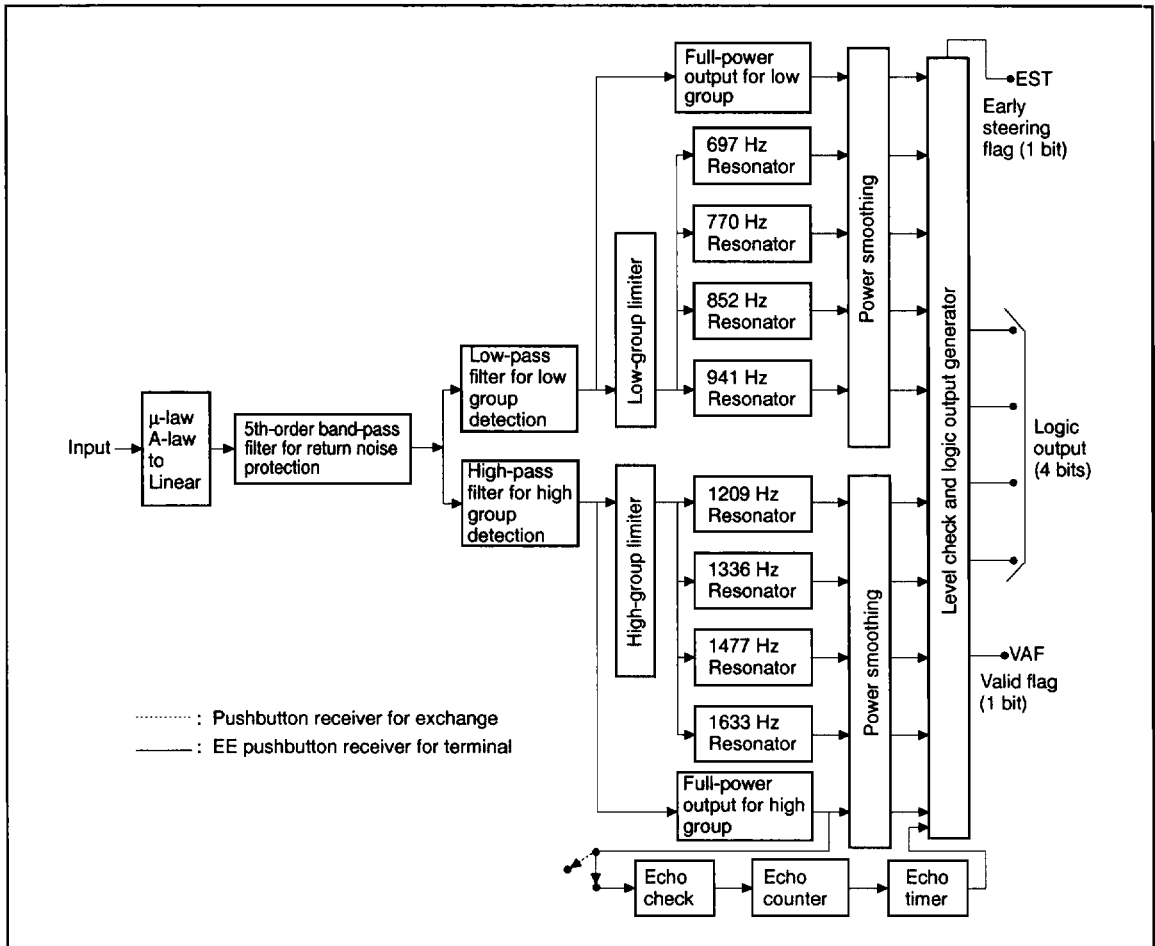
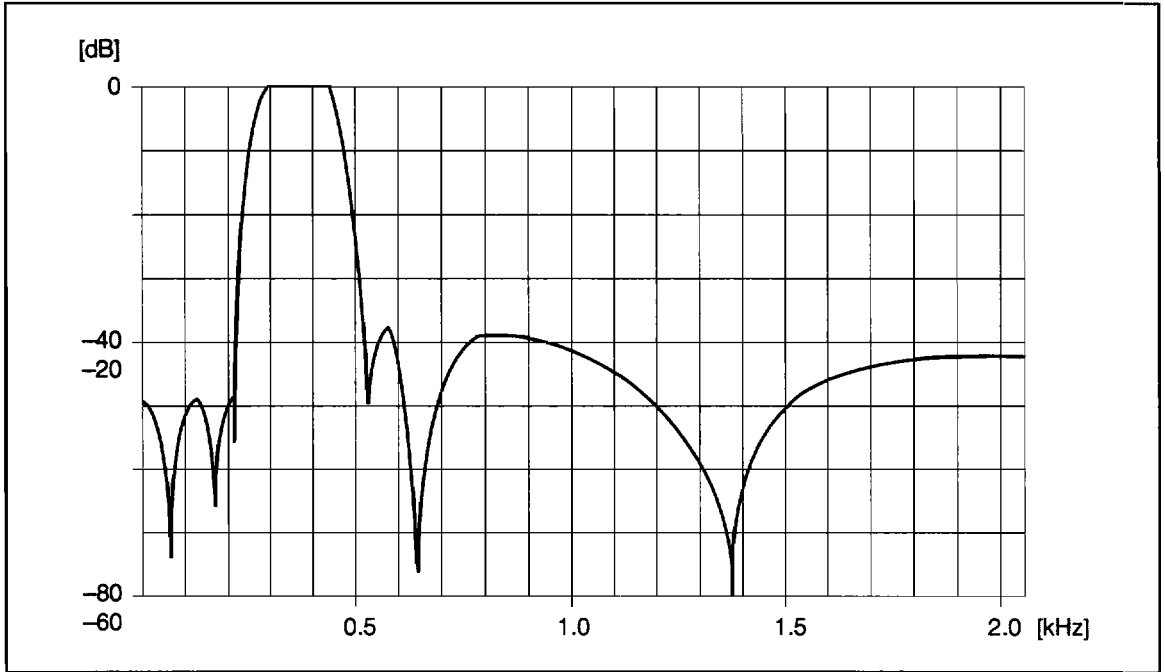

Figure 2 DTMF Receiver Functional Flow (One Channel)
Figure 4 6th-Order High Pass Filter for Dial Tone Detection in Sensitive Band ① and Low Pass Filter ②
Figures 4 to 5 show the frequency characteristics of the filter sections (①, ②, ③) illustrated in the DTMF and DT functional flow diagrams. (See figure 2, 3.)